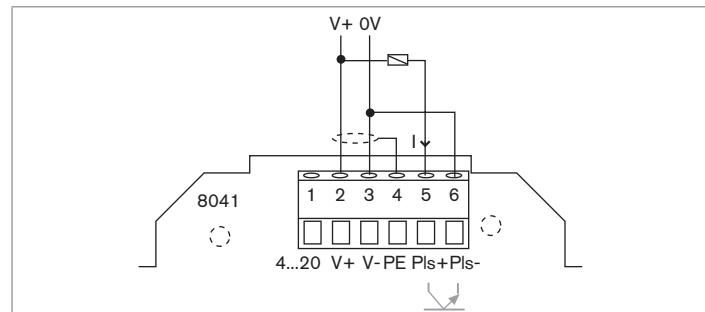

Fig. 20 : Frequency output connection to an electromechanical counter or relay
- or to a charge such as an electromechanical counter or a relay (see Fig. 20);